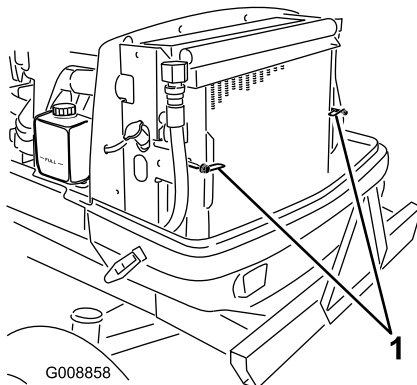

Figure 78
3. Rotate the latches securing the oil cooler to the frame (Figure 78).